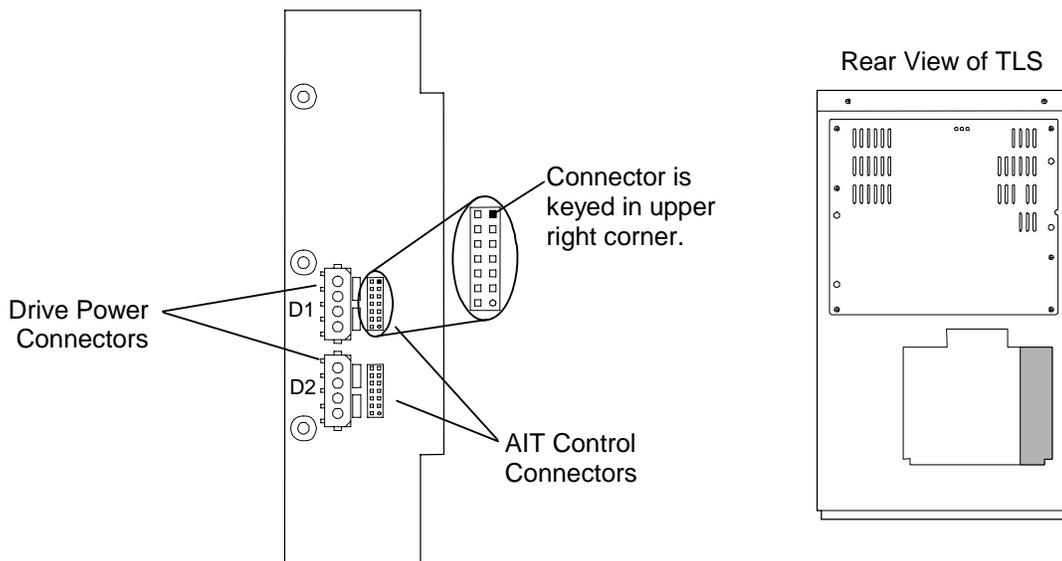

Figure 3-10 Drive Bay PCBA Connectors (42xx shown)
1. Plug the drive's drive power cable into the corresponding numbered drive power header on the Drive Bay PCBA (e.g. D1PWR, D2PWR, etc.; the connectors are polarized). See Figure 3-10. Connector D1PWR belongs to the top tape drive.